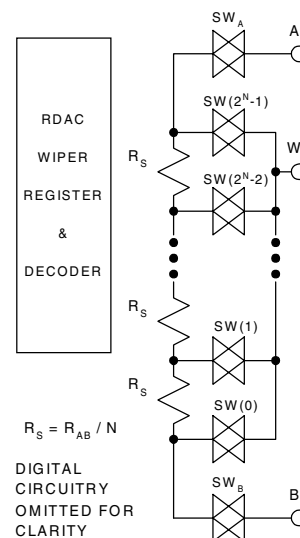

Figure 3. Equivalent RDAC structure
The actual structure of the RDAC is designed to emulate the performance of a mechanical potentiometer. The RDAC contains a string of connected resistor segments, with an array of analog switches that act as the wiper connection to several points along the resistor array. The number of points is the resolution of the device. For example, the AD5232 has 256 connection points allowing it to provide better than 0.5% set-ability resolution. Figure 3 provides an equivalent diagram of the connections between the three terminals that make up one channel of the RDAC. The SW_A and SW_B will always be ON while one of the switches SW(0) to SW(2^N-1) will be ON one at a time depending upon the resistance step decoded from the Data Bits. Note there are two 50 ohm wiper resistances, R_W. The resistance contributed by R_W must be accounted for in the output resistance. At terminals A-to-wiper, R_W is the sum of the resistances of SW_A and SW_X. Similarly, R_W is the sum of the resistances SW_B and SW_X at terminals B-to-Wiper.